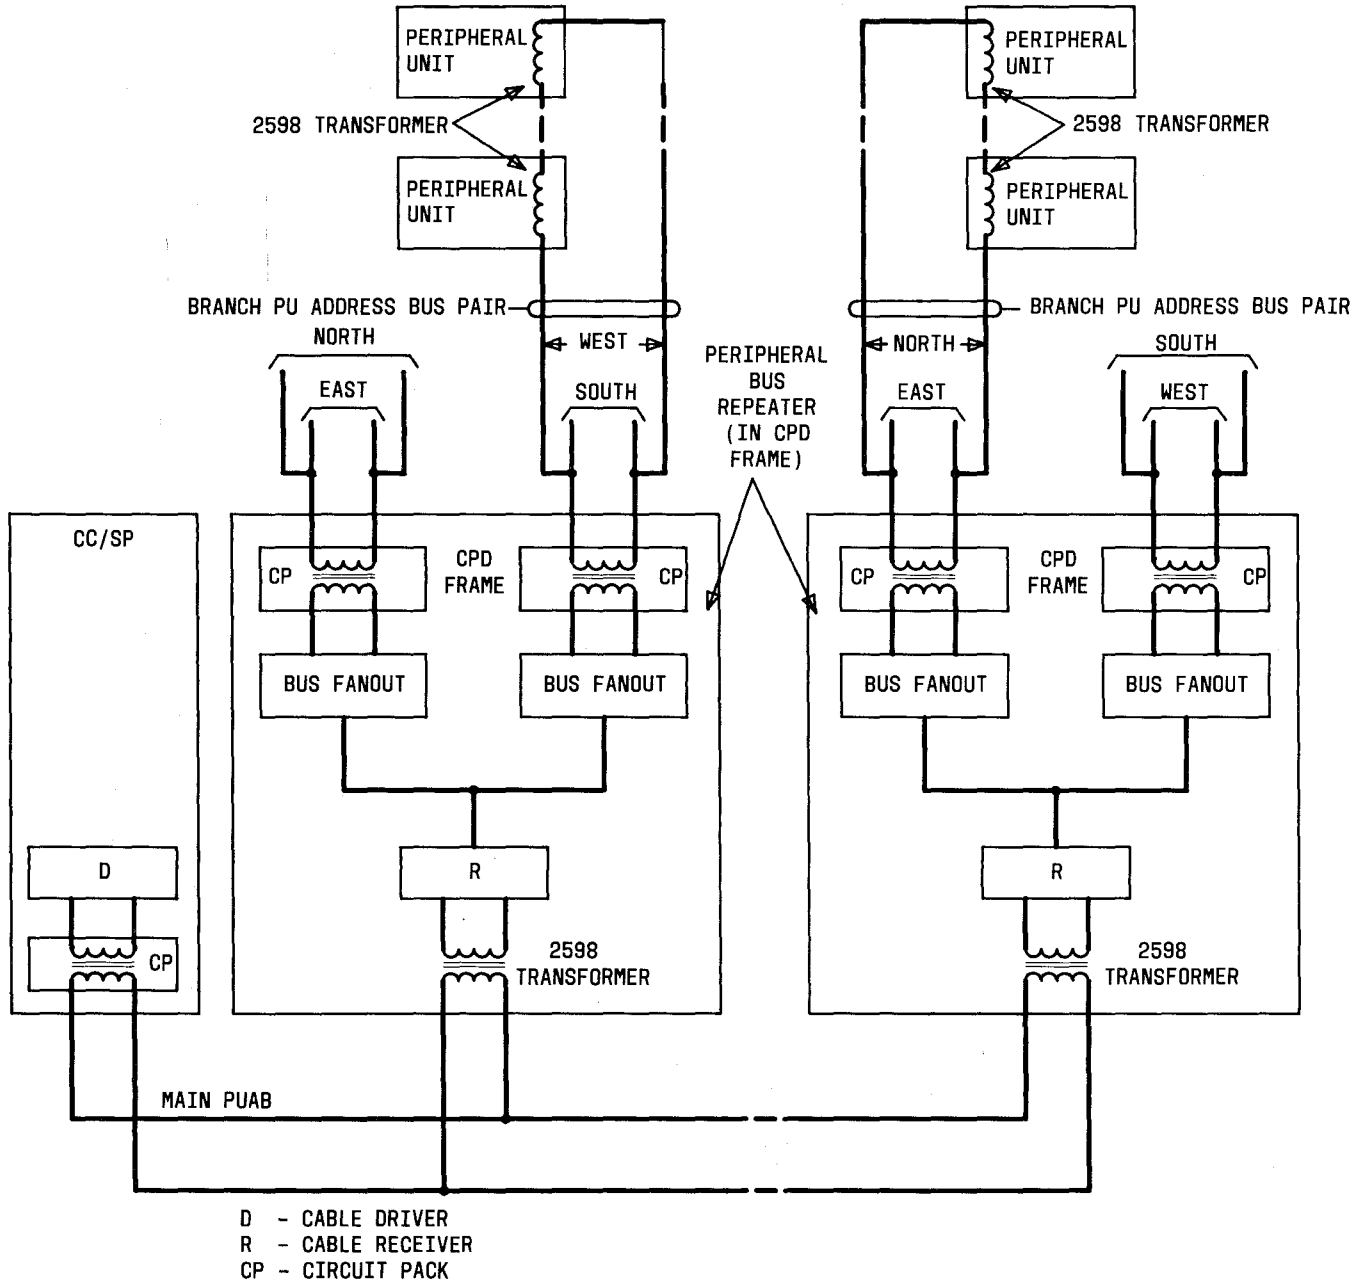

Fig. 1—Basic PUAB Fan-out Scheme
**3.01** ♦The peripheral unit address bus (PUAB) is routed from the central control (CC) or signal processor (SP) to the peripheral bus repeater (PBR) located in the central pulse distributor (CPD) frame (Fig. 1). This section of the bus is called the main peripheral unit address bus. The 2598 bus transformer associated with this section of the PUAB is on the input side of the PBR and is also located on the CPD frame. The bus distribution circuit keys located on the CPD frame are used to control the power for the associated PBR. The section of the PUAB routed from the PBR to the peripheral unit frame is the branch peripheral unit address bus pair. The 2598 bus transformer associated with this section of the PUAB is located on the peripheral unit frame.♦
- (4) ♦If the 2598 bus transformer is associated with the branch peripheral unit address bus pair (Fig. 1) and is located at the peripheral frame, perform the following: